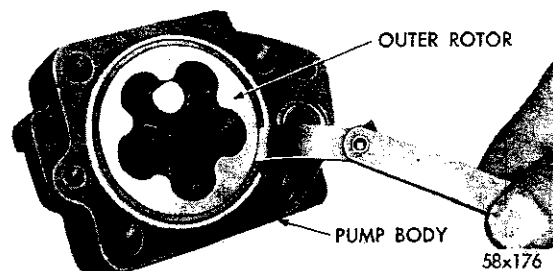
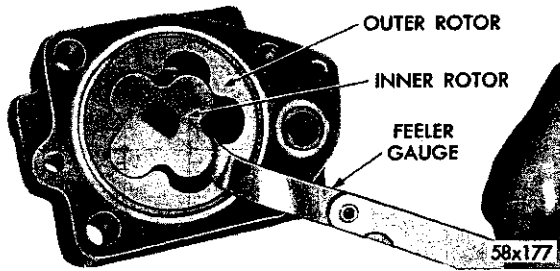

Fig. 7—Measuring the Outer Rotor Clearance
Fig. 8—Measuring the Clearance Between Rotors
(8) Press the outer rotor body to one side with the fingers and measure the clearance between the outer rotor and the pump body (Fig. 7).
(9) If the measurement is more than .012 inch, replace the oil pump body.
(10) If the tip clearance between the inner and outer rotor (Fig. 8) is more than .010 inch, replace the inner and outer rotors.